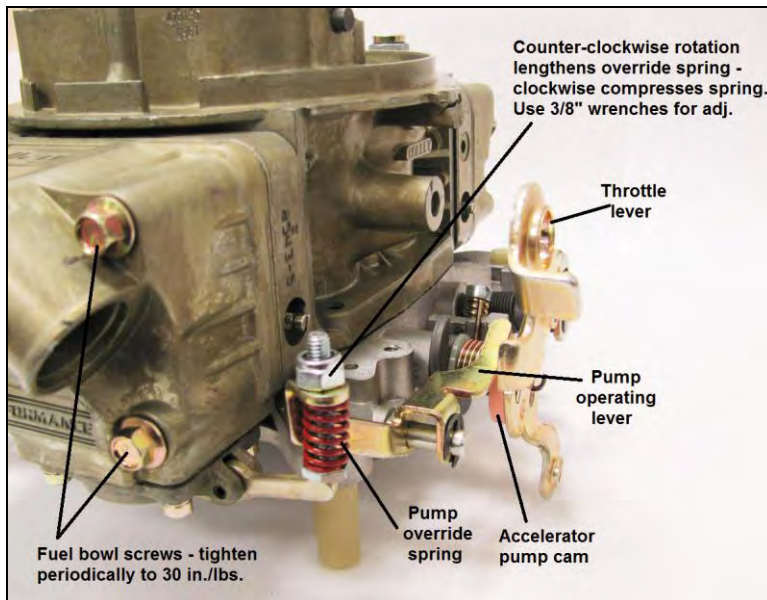

Figure 8
- 2. **Accelerator Pumps:** The "trick" to extracting peak performance from a "double pumper" is to get the pump shot delivered at the exact rate that is required by the engine. This rate is affected by the pump discharge nozzle size and the pump cam profiles. This carburetor has been calibrated for the most "typical" applications. Added performance can be obtained through "on the vehicle" testing. Necessary parts and tuning instructions are available in Holley TRICK kit P/N 37-933. In all cases, it is necessary that the slightest movement of the throttle lever results in movement of the pump operating lever. This is adjusted by compressing or relaxing the pump override spring as shown in Figure 8.